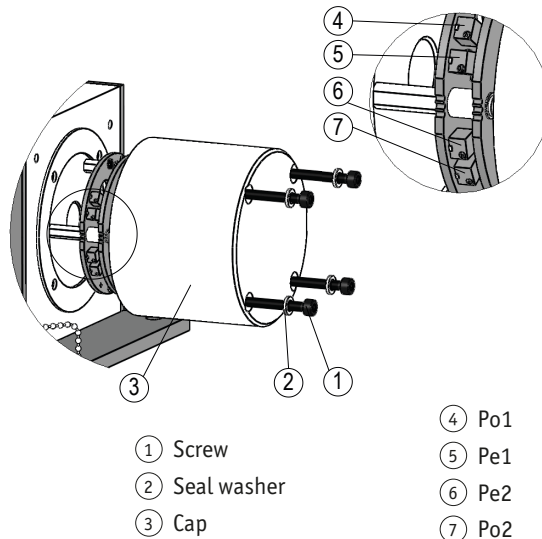

Fig. 8: Setting up the trim potentiometers
Casing of wire-actuated part is equipped with four plugs (1) for aeration (see Fig. 8), if necessary. Water/humidity inside the casing can be easily evacuated by removing the plugs (1).
### Adjusting the trim potentiometer (Fig. 8)